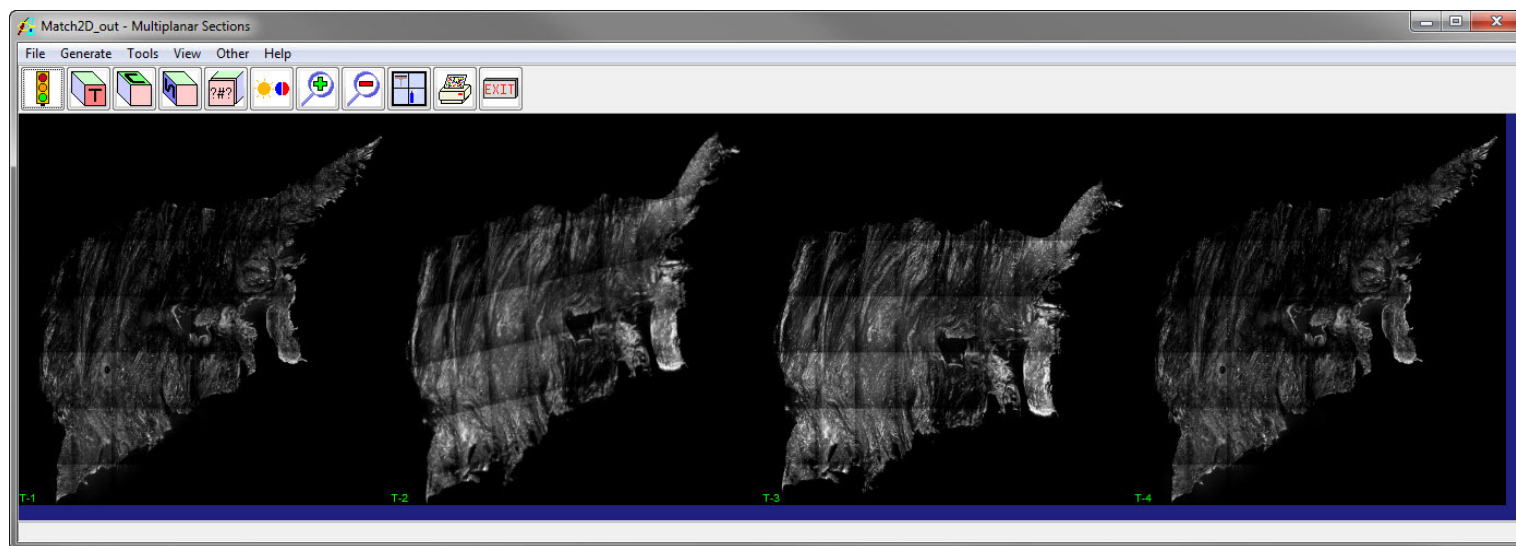

Figure 6
15. Review the original data and then the registered data (Match2D_out) using the Multiplanar Sections module. Observe the difference in the slice data between the two data sets, specifically slices 2 and 3 in the registered data set (figure 6).